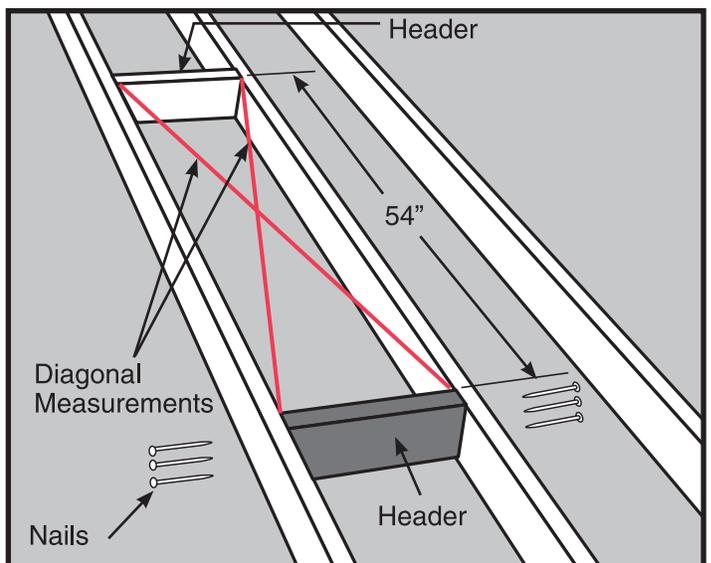

Figure 13 How to check for square
- STEP 5.** Position the second header 54” from the first one and repeat Step 4 (See Figure 13).
- STEP 6.** The frame for the rough opening requires four sides. The headers make up two of those sides. If your ceiling joists are spaced so that they make up the other two sides of the rough opening, check the opening for squareness by measuring across the diagonals. The measurements should be within 1/8” to be considered square (See Figure 13).